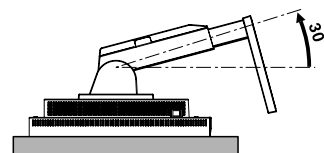

Figure S.2
2. Gently put the Height Adjustment up about 30 degrees (**Figure S.2**).